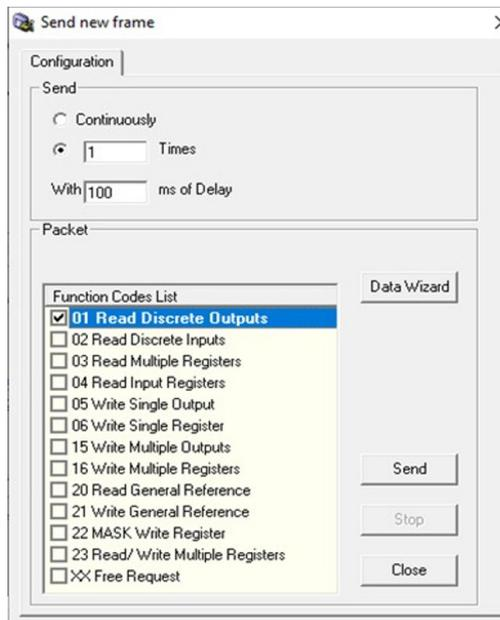
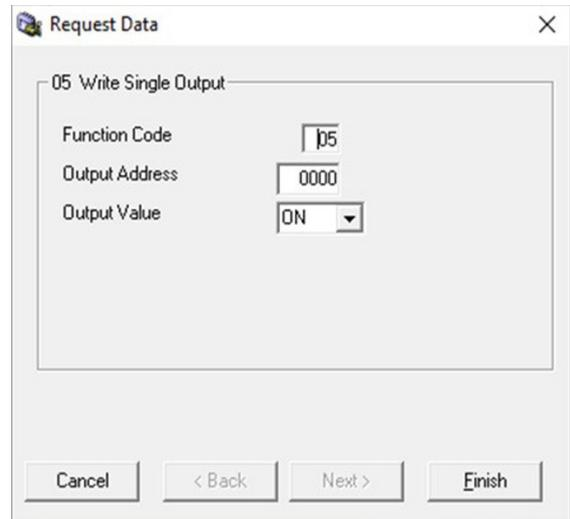

Figure 36.2. Send New Frame window.
Figure 37.1. Request Data window.
- In the Send New Frame window (see Figure 36.2), keep the default settings of “1” Times with “100” ms of Delay. Click on the “01 Read discrete Outputs”. A new Request Data window will appear where you can input a function code, starting address, and quantity of outputs. See Figure 37.1.
- In the Send New Frame window (Figure 36.2), click on the Send button to send the same request as before.
- Keep the default settings of “1” Times with “100” ms of Delay. Click on “05 Write Single Output”. The Request Data window will appear. Enter a function code, output address, and output value, as shown in Figure 37.1.